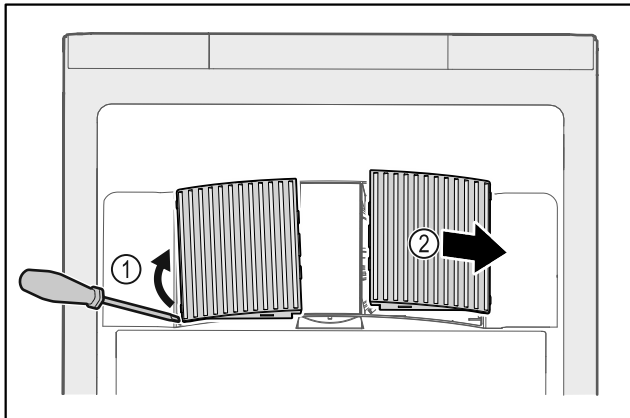

Fig. 175
- ▶ Carefully lever out fan covers from the side Fig. 175 (1) and remove towards the front Fig. 175 (2).